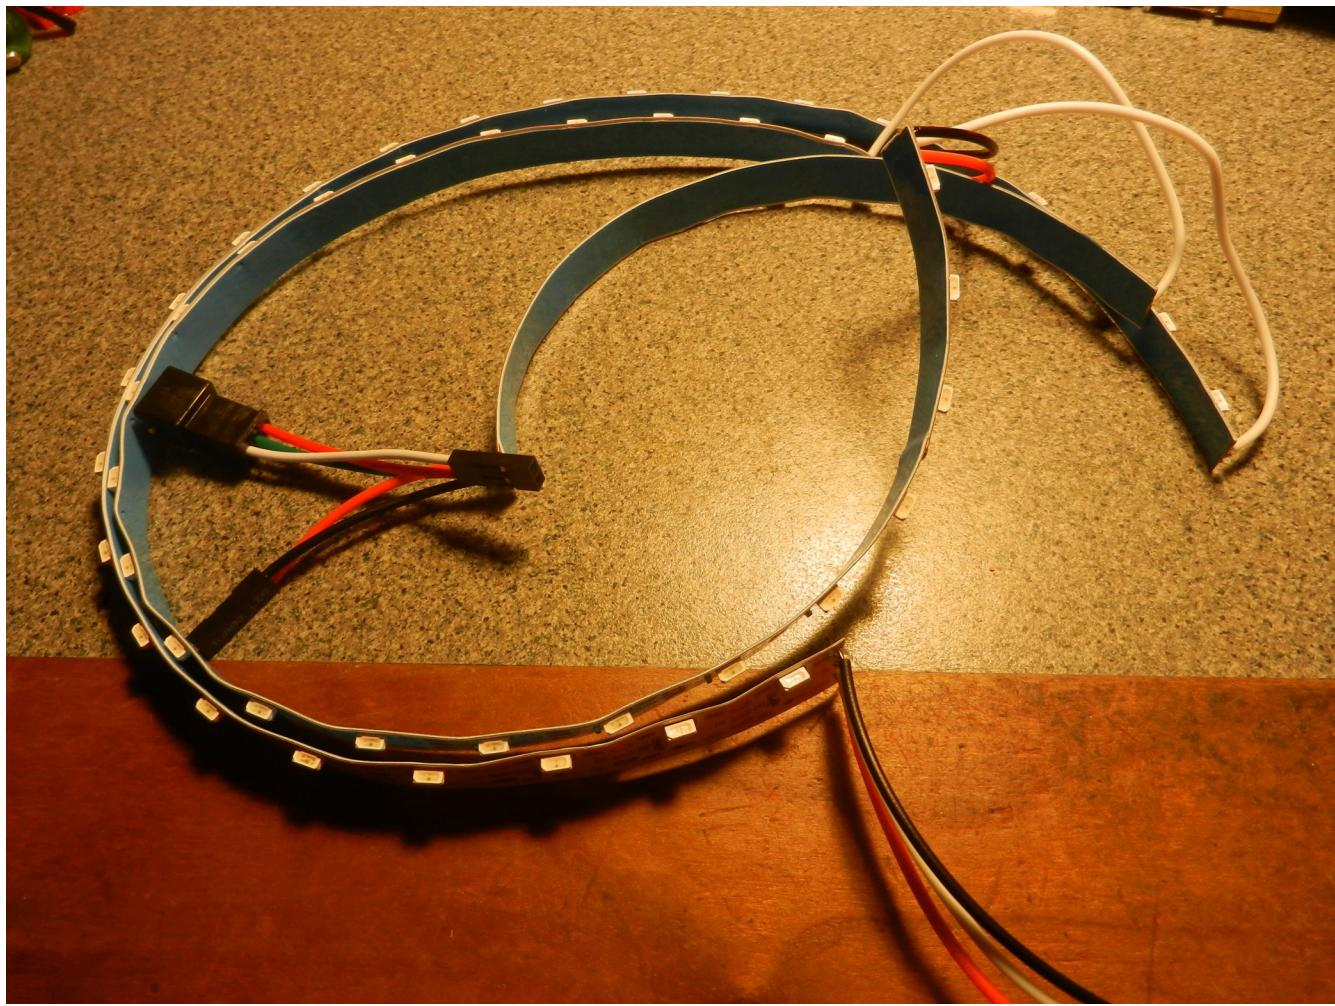

Figure 20, Completed rewire of the side emitting LED strip.
8. The side emitting LED strips should look like the picture in Figure 20.